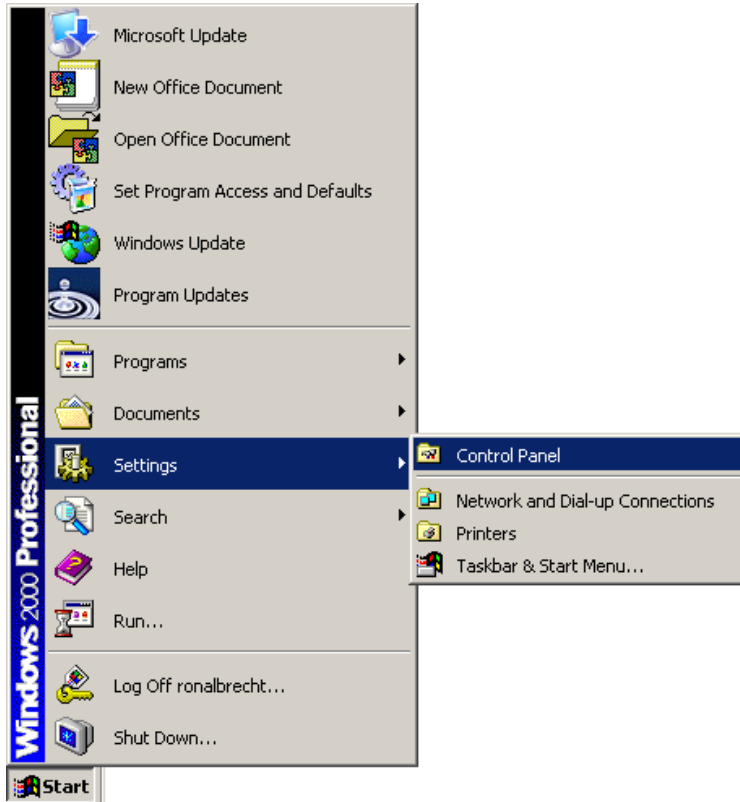

Figure 5-35: Windows Control Panel
**Step 1:** Open **Windows Control Panel (Figure 5-35)**.